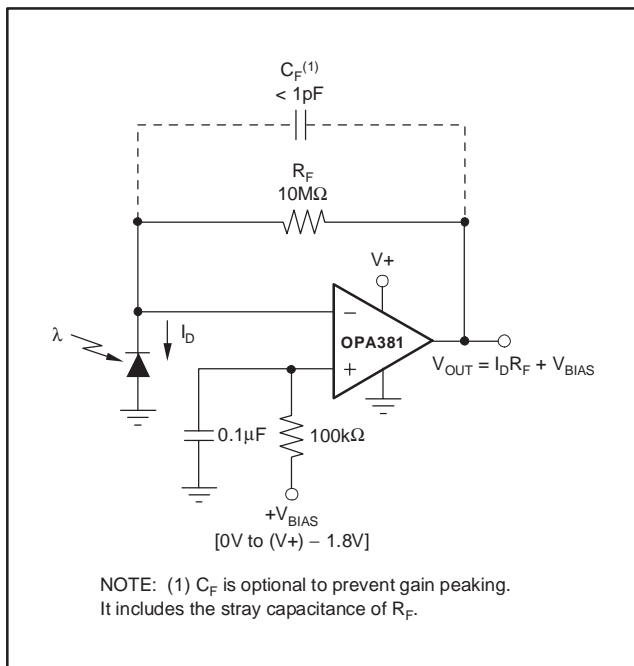

**Figure 3. Amplifier with Pull-Down Resistor to Achieve  $V_{OUT} = 0V$**
- (1) High temperature operating life characterization of zero-drift op amps applying the techniques used in the OPA381 have repeatedly demonstrated randomly distributed variation approximately equal to measurement repeatability of  $1\mu V$ . This consistency gives confidence in the stability and repeatability of these zero-drift techniques.
- (2) Tested with output connected only to  $R_P$ , a pulldown resistor connected between  $V_{OUT}$  and  $-5V$ , as shown in Figure 3. See also **Applications** section, *Achieving Output Swing to Negative Rail*.
- (3) Transimpedance frequency of 250kHz.
- (4) Time required to return to linear operation.
- (5) From positive rail.
The OPA381 performance results from an internal auto-zero amplifier combined with a high-speed amplifier. The OPA381 has been designed with circuitry to improve overload recovery and settling time over that achieved by a traditional composite approach. It has been specifically designed and characterized to accommodate circuit options to allow 0V output operation (see Figure 3).
The output of the OPA381 can be made to swing to 0V, or slightly below, on a single-supply power source. This extended output swing requires the use of another resistor and an additional negative power supply. A pull-down resistor may be connected between the output and the negative supply to pull the output down to 0V; see Figure 3.